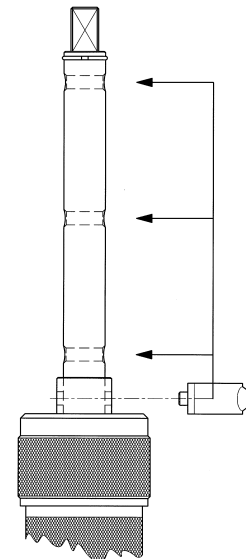

Figure 24
- Select the position of the chuckshaft depending on the distance it will have to travel during drilling, placing the retention mechanism in the most appropriate opening of the three located on the shaft. See *Figure 24*.
If a length longer than the machine's travel is necessary, the drilling can be continued by moving the retention mechanism to the next opening above the one it was fastened to on the shaft (unless the highest anchoring has been in use). See *Figure 24*.